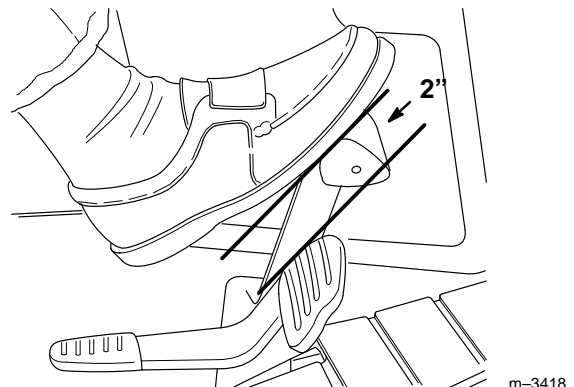

Figure 35
3. Depress the brake pedal. There should be 2" (51 mm) of free travel (Fig. 35) before the brake begins to engage.